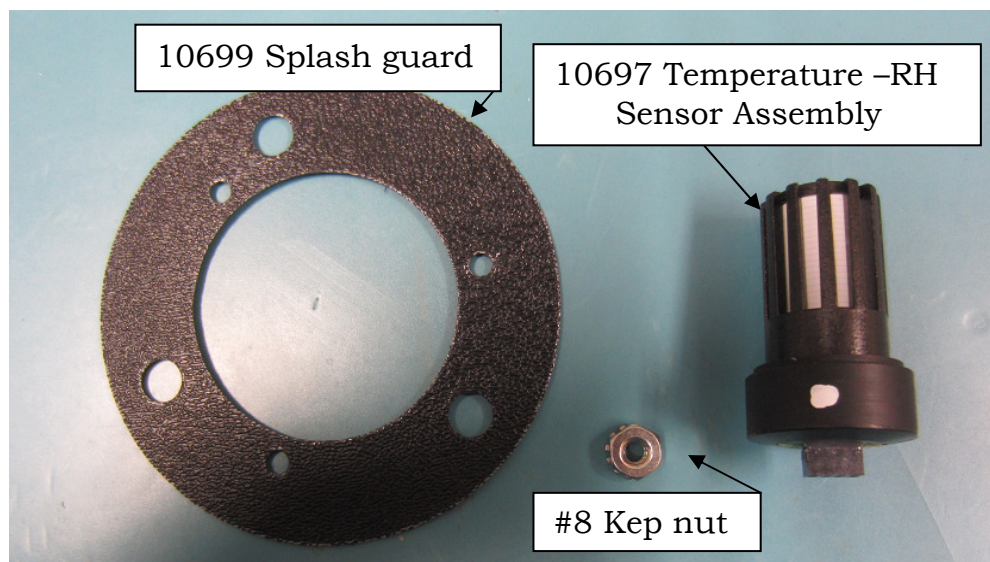

Figure 1
2. 10694 MSO Temperature-RH Sensor Upgrade kit. See Figure 1.